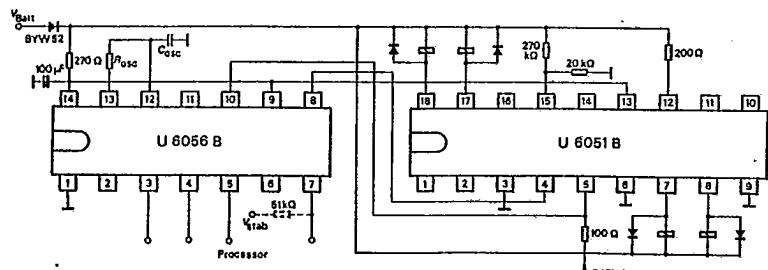

Fig. 17
c. Combinations with U 6051B/U 6052B and U 6056B, Figs. 17 and 18.